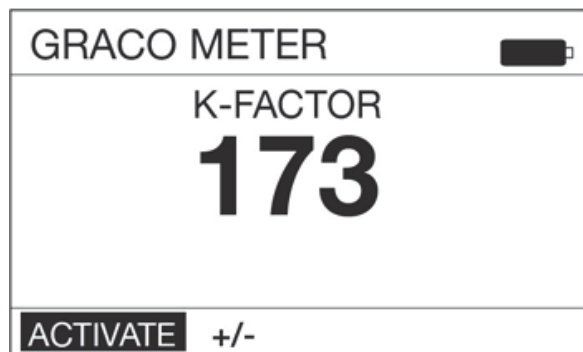

FIG. 15
4. The calibration k-factor screen shown in FIG. 15 displays.
5. Select ACTIVATE and press the center ENTER button on the keypad to begin metered dispense valve calibration (FIG. 15).